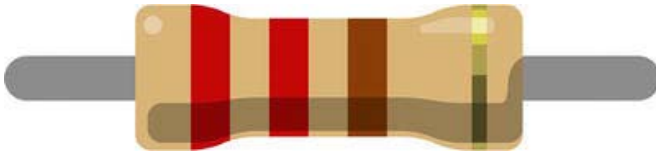

Figure 3-4. 220 Ω + - 5% carbon-compound resistor
You might wonder from which end of the resistor you should read the colored bands. If you look closely you can see that one band has a slightly bigger distance to the other ones. This is the tolerance band. Figure 3-4 shows a 4-band carbon-compound 220 Ω resistor with a + - 5% tolerance. The first band is red (2), the second band is red (2), and the multiplier band is brown (10), which translates to $22 \times 10\Omega = 220\Omega$. The tolerance band is gold (+ - 5%).